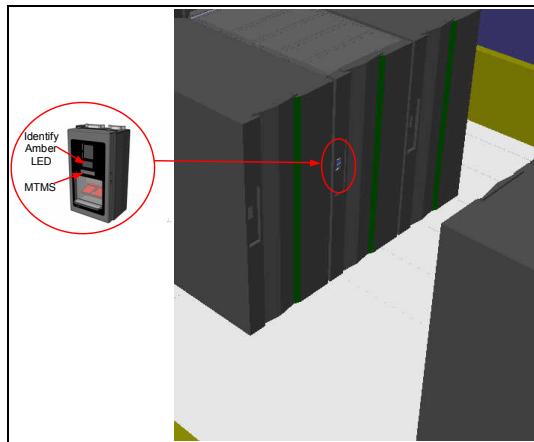

Figure 3 UEPO Identify LED location
STEP 7 Locate the frame. The UEPO Identify Amber Led (see Figure 3) should be flashing. If the LEDs are not flashing, verify the FRU via MTMS (machine type model serial number). The rack level MTMS is located on the face of the UEPO (see Figure 3). Open the front and rear door of the frame.